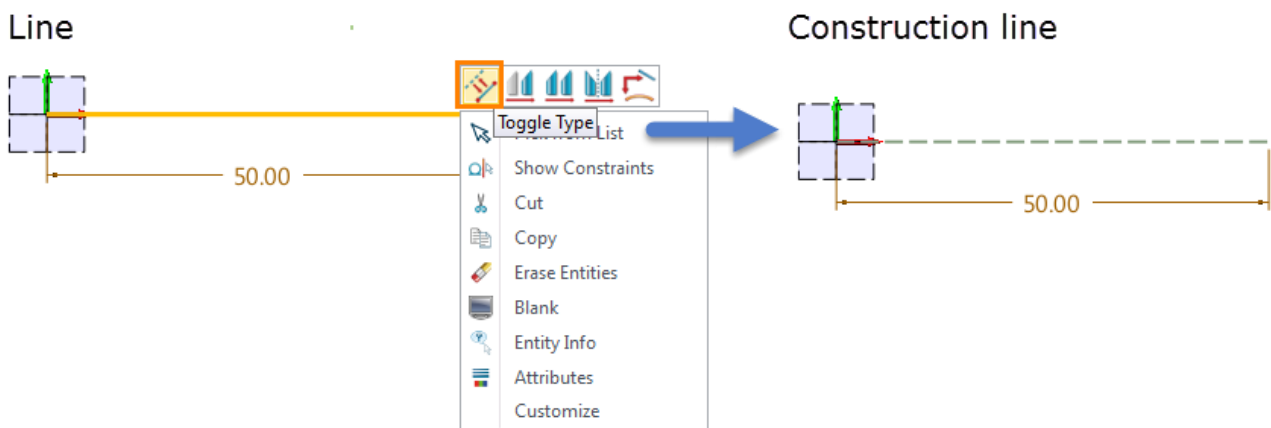

Figure 17 Toggle line type
**STEP 02** Right click the line and apply "Toggle Type" command. The line becomes the construction line. See the Figure 17.